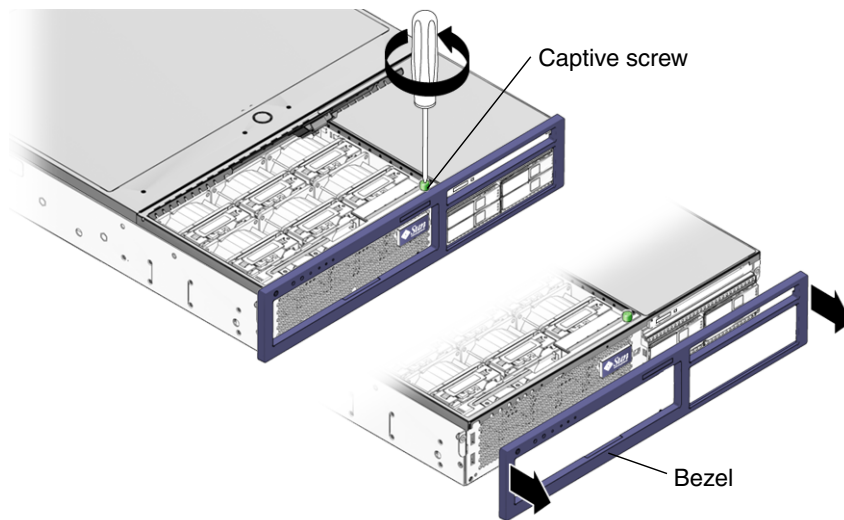

FIGURE 3-7 Removing the Bezel From the Server – Sun Fire V245
2. Loosen the captive screw (FIGURE 3-7).